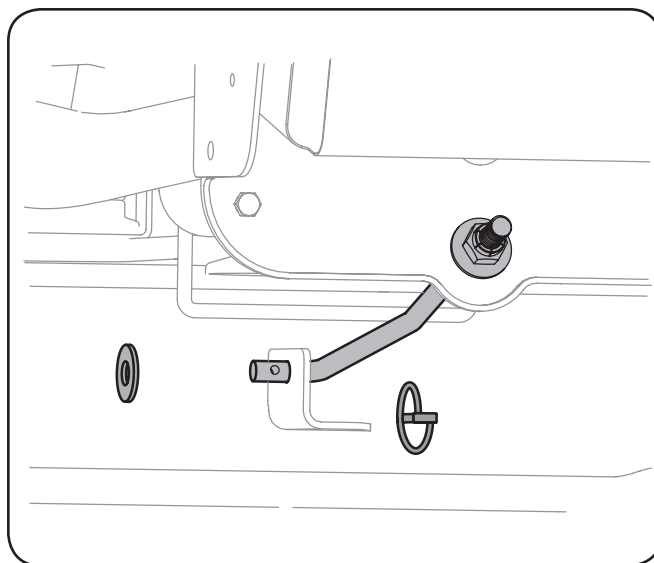

Figure 7-5
- Remove the cotter pin and flat washer from the end of the stabilizer rod and slide the stabilizer out of the hanger bracket on the deck. See Figure 7-5.
- a. With the deck beneath the mower frame, attach the stabilizer rod. See Figure 7-5.